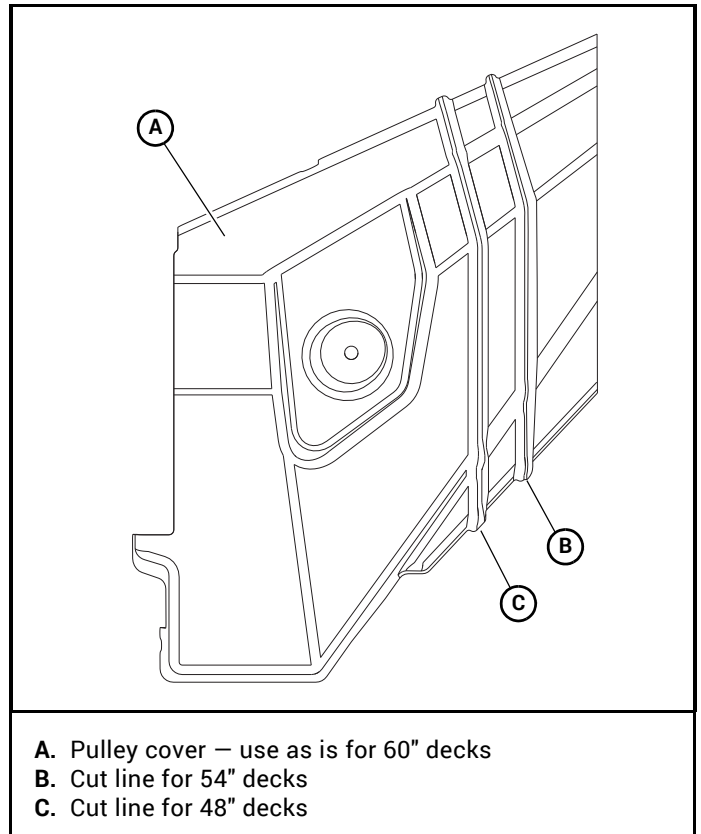

Figure 3-28
36. Carefully cut the pulley cover to match the deck size the catcher is being installed on. Figure 3-28